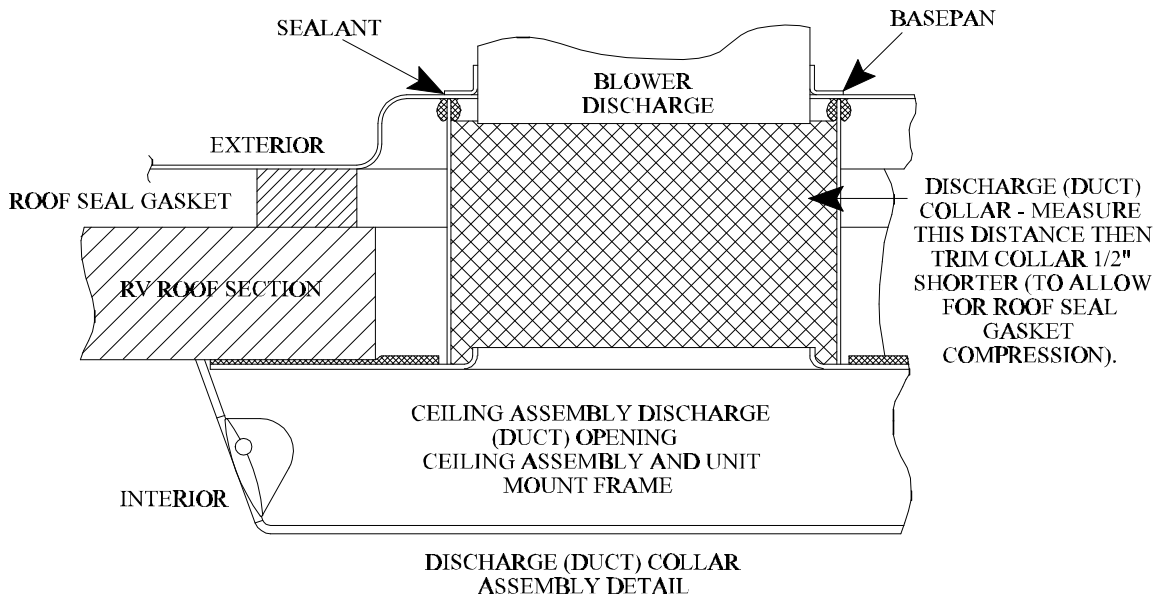

FIGURE 6
- D. On ceiling assemblies equipped with the Elect-A-Heat heater package (heat/cool ceiling assemblies), detach the bottom heating element support plate by loosening the six (6) screws located around the outer edge. The heat element support plate can now be slid over the screw heads. The electrical connection plug will need to be disconnected before the heat element support plate can be removed. **THIS ENTIRE STEP ‘D’ IS NOT REQUIRED ON COOLING ONLY CEILING ASSEMBLIES.**
- E. Before the ceiling assembly can be mounted to the roof top air conditioner, the soft aluminum duct collar must be properly sized (trimmed). Measure the distance between the bottom of the air conditioner basepan and the vehicle interior ceiling line (See Figure 6). Take the aluminum duct collar and trim its height to this measurement less 1/2".
- F. Square the duct collar (hand form) and place the untrimmed (factory sheared) end of the duct collar over the ceiling assembly discharge opening flange (See Figure 6).